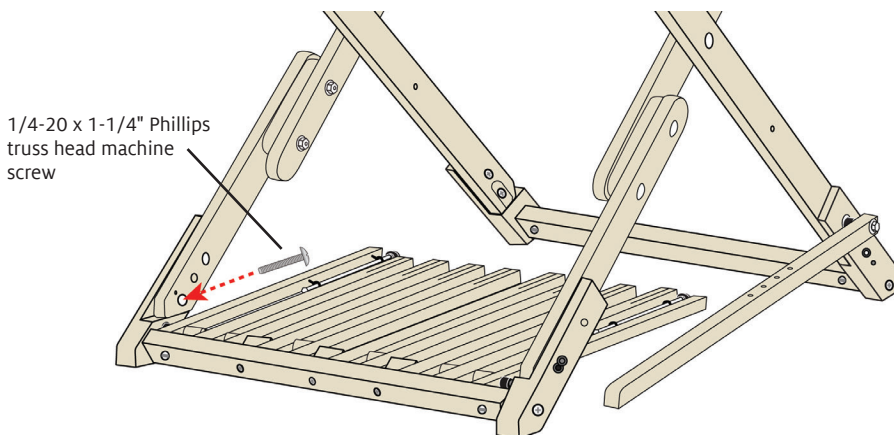

FIGURE 12: ATTACH INSIDE BLOCKS TO INSIDE LEGS, LOWER HOLE
24. From inside the loom, insert a 1/4-20 x 1-1/4" Phillips truss head machine screw through the large hole at the bottom of the inside leg (where the treadle assembly used to attach) and into the second hole from the top of an inside height extender block, as shown in Figure 12. Attach this screw firmly to the height extender block. Repeat on the other side of the loom for the remaining inside height extender block.